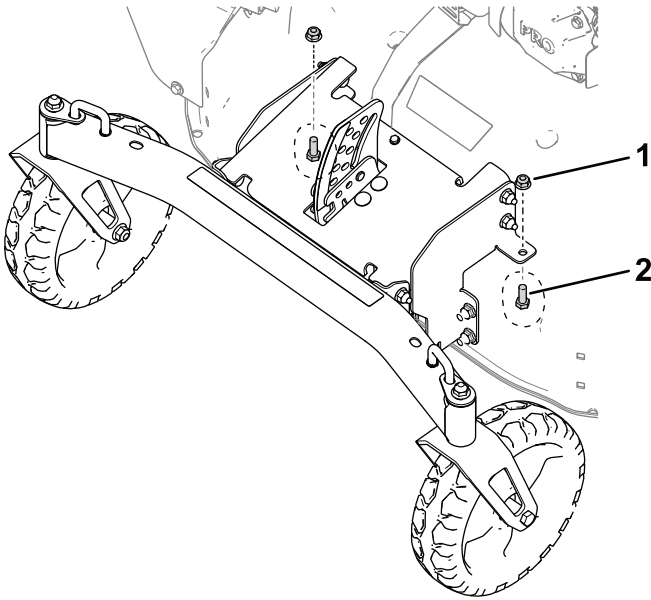

**Figure 13**
2. Using the caster bracket tabs as a template, drill 2 holes (8 mm or 5/16 inch) into the top of the deck as shown in Figure 13.